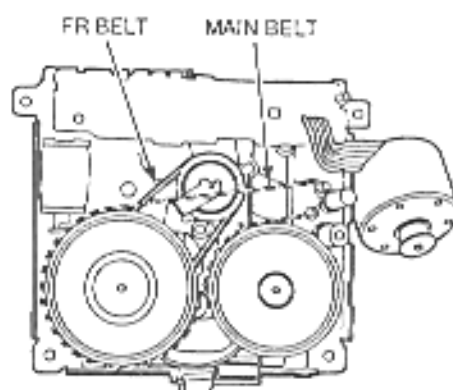

Fig. 3-17
- 1) Unthread the MAIN BELT and replace the FR BELT as shown in Fig. 3-17.